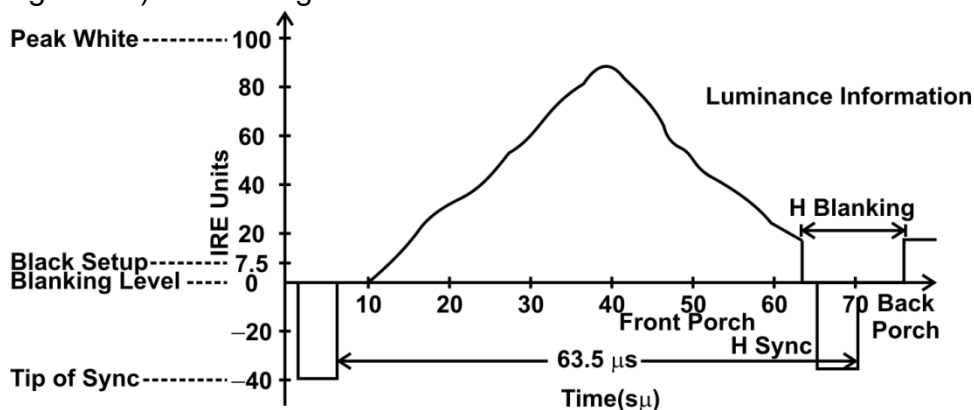

Fig. 12.8 Monochrome video signal
2. The video signal shown in figure 12.8 has negative sync, that is, the sync pulses are in negative direction. An inverted version of this signal, called positive sync, is also possible. The polarity of luminance portion depends on